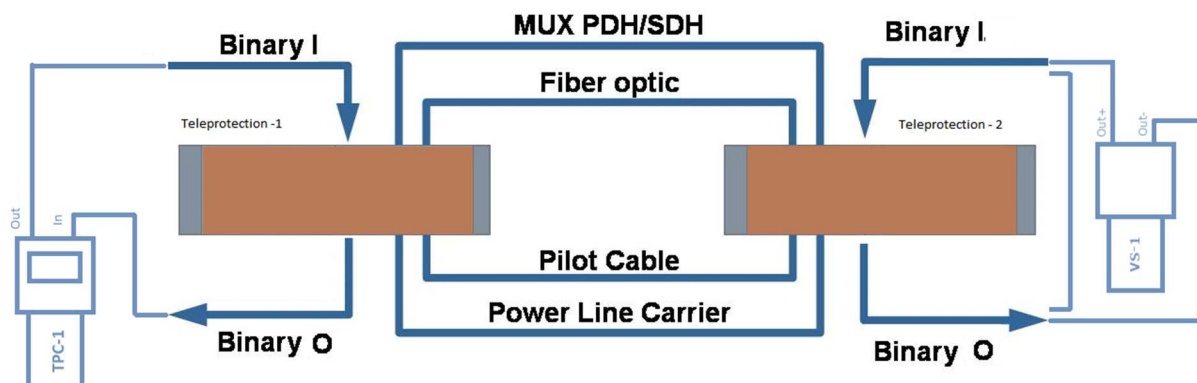

Fig. 7 Loopback measurement method diagram with voltage source VS-1 on remote side
- Fig. 7 Loopback measurement method diagram with voltage source VS-1 on remote side 13
This method is called loopback measurement method. This method needs supply on remote site via another TPC-1 tester or voltage source module VS-1 (Fig 7).
In SWT3000 device input and output circuits of IFC-D/P modules are not polarized. Sample connection of VS-1 to terminal block is show on fig. 7. Red and black wire are connected to VS-1, green wire connect input and output of SWT3000